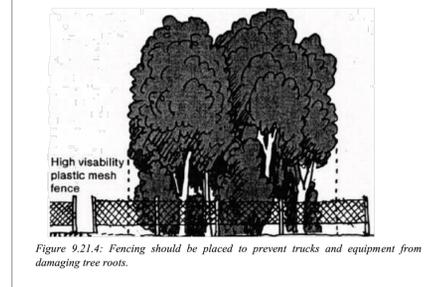

Figure 9.21.4: Fencing should be placed to prevent trucks and equipment from damaging tree roots.
- HIGH-VISIBILITY PLASTIC MESH FENCING SHALL BE PLACED TO PREVENT TRUCKS AND EQUIPMENT FROM DAMAGING TREE ROOTS. SEE FIG 9.21.4 THIS SHEET.